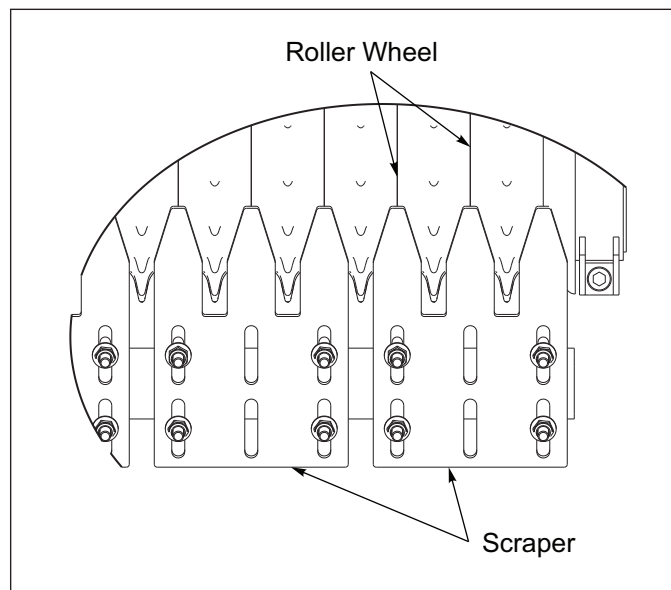

Figure 5-12: Scraper Alignment
3. Verify that the Scrapers are centered as best as possible between the Roller Wheels and adjust if necessary. **See Figure 5-12.**